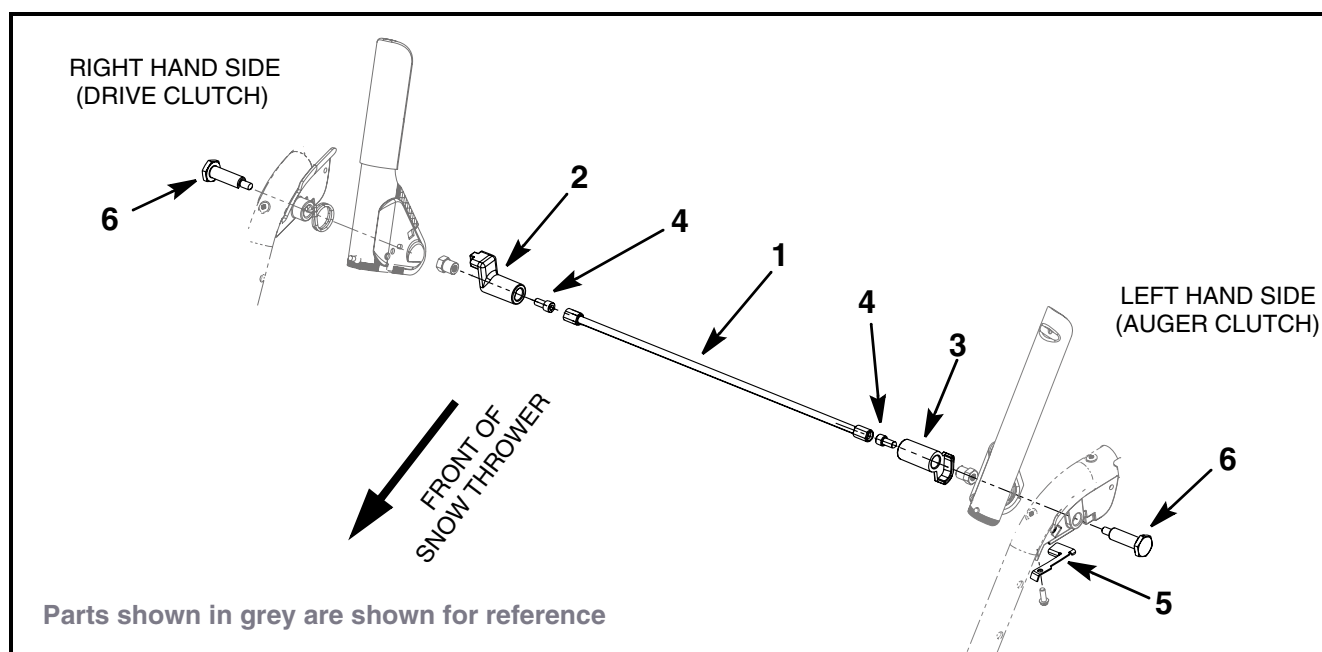

FIGURE 1
(See Figure 1)
16. Remove and discard the existing pivot rod assembly. Refer to Figure 1, Item #1.